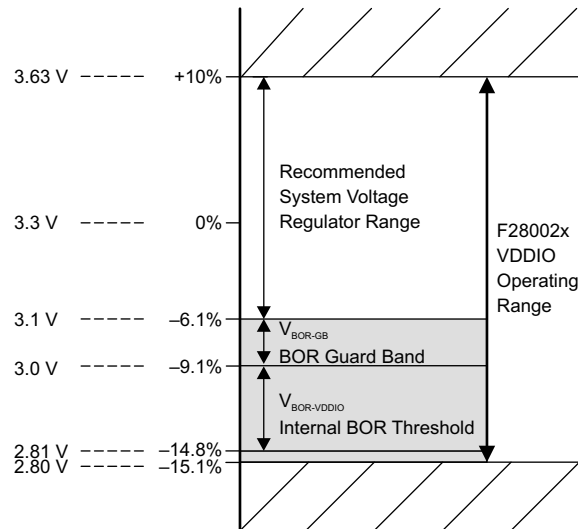

Figure 5-1. Supply Voltages
- (1) Internal BOR is enabled by default.
- (2) The VDDIO BOR voltage (VBOR-VDDIO[MAX]) in Electrical Characteristics determines the lower voltage bound for device operation. TI recommends that system designers budget an additional guard band (VBOR-GB) as shown in Figure 5-1.
- (3) Supply ramp rate faster than this can trigger the on-chip ESD protection.
- (4) TI recommends VBOR-GB to avoid BOR resets due to normal supply noise or load-transient events on the 3.3-V VDDIO system regulator. Good system regulator design and decoupling capacitance (following the system regulator specifications) are important to prevent activation of the BOR during normal device operation. The value of VBOR-GB is a system-level design consideration; the voltage listed here is typical for many applications.
- (5) Operation above TJ = 105°C for extended duration will reduce the lifetime of the device. See Calculating Useful Lifetimes of Embedded Processors for more information.